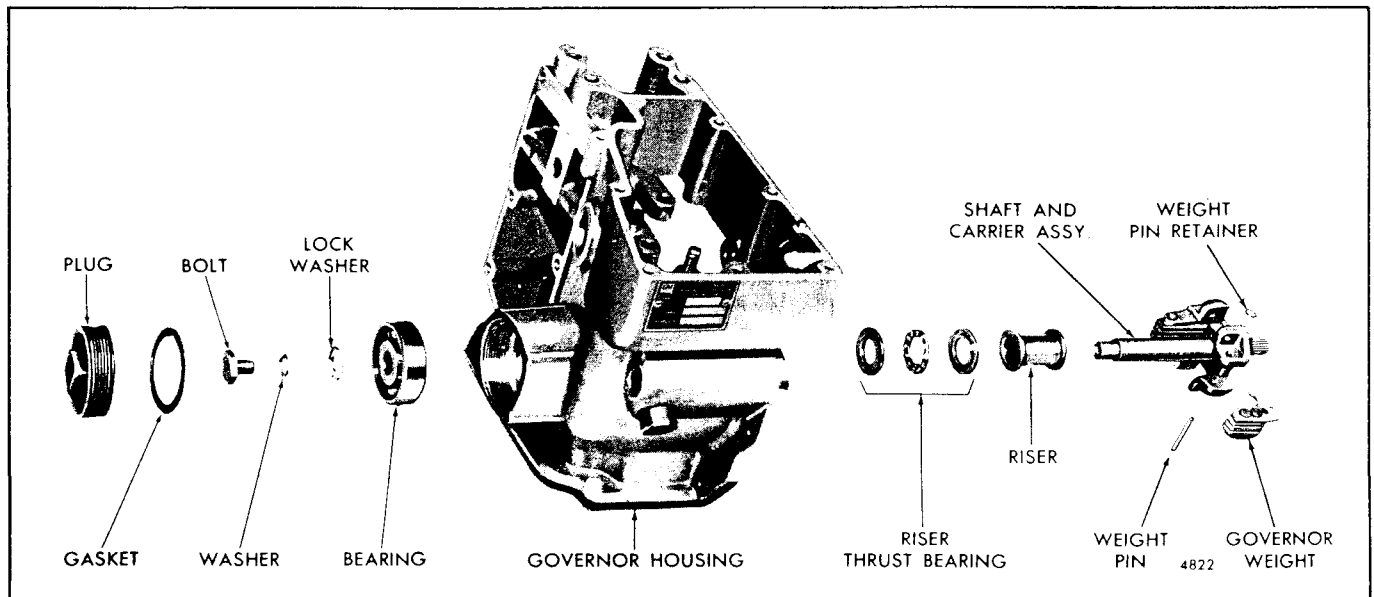

Fig. 12 - Governor Housing and Weight Details and Relative Location of Parts
- b. Remove the weight pin retainer from each weight pin (Fig. 12). Clamp the weight carrier assembly in a vise equipped with soft jaws, then drive the pin out of the carrier and weights by tapping on the grooved end of the pins with a small punch and hammer. Remove the weights from the carrier.